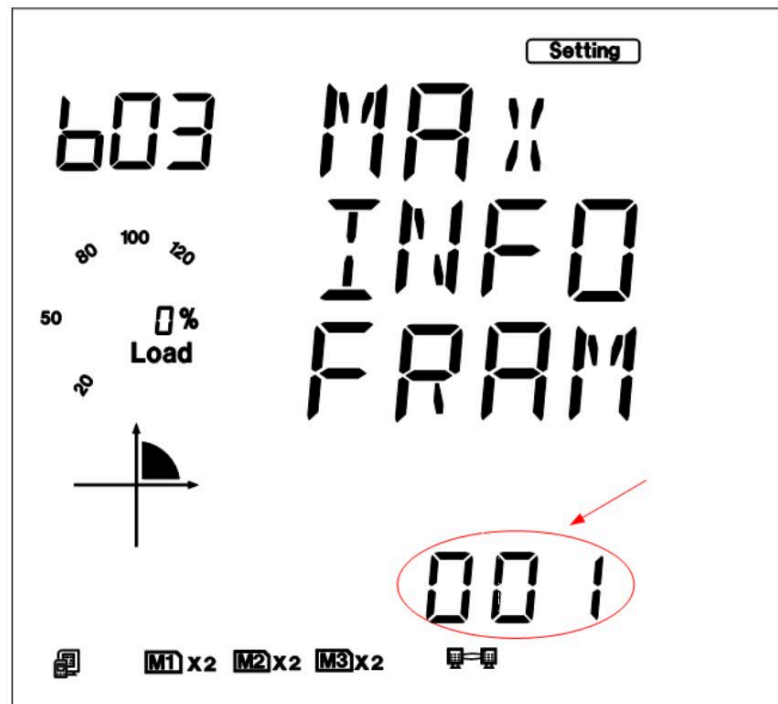

Fig 5-84
j). Set resetting mode in the eighth setting page. Select "RESET" to reset the module. Selecting "NO" will not reset the module. Press the "V/A" key to go to the setting page and the parameter pointed out in Fig 5-84 will flash. Press the "P" or "E" key to select the configuration mode. Press the "V/A" key to accept.